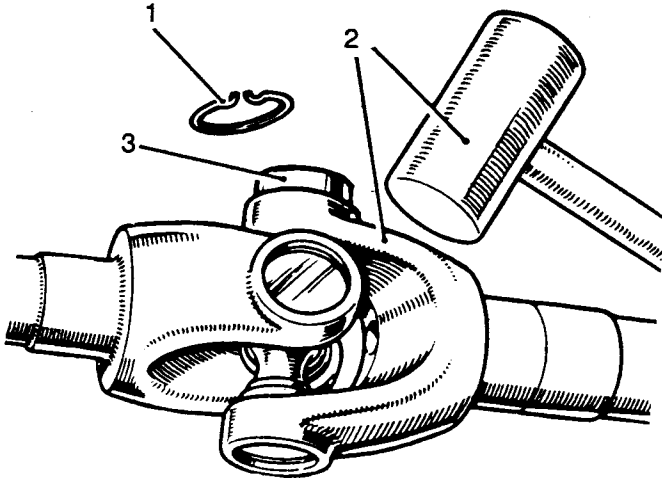

Fig J1.39
- (2) Refer to Fig J1.39. Remove the circlip (1) from the universal joint.
- (3) With one of the stub shaft yoke lugs (2) uppermost tap the radius of the yoke lightly with a soft-nosed mallet.
- (4) The top bearing (3) should then begin to emerge from the yoke.